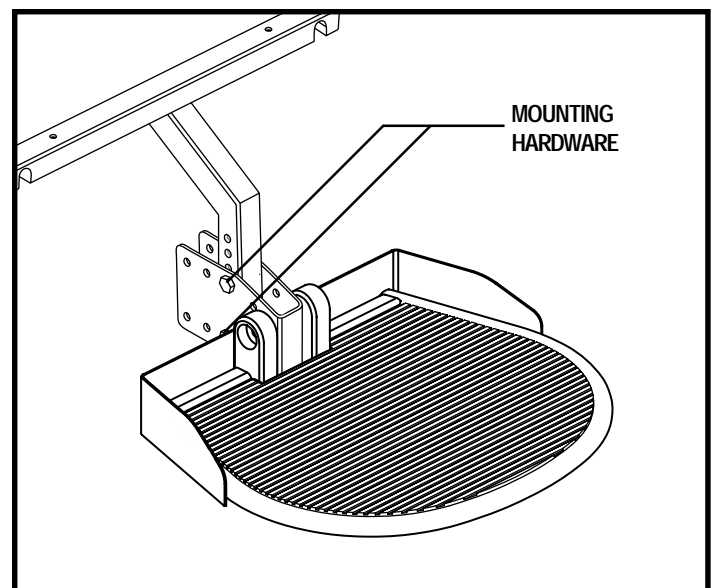

Figure 19. Foot Platform Height Adjustment
1. Remove the mounting hardware from the foot platform bracket. See figure 19.